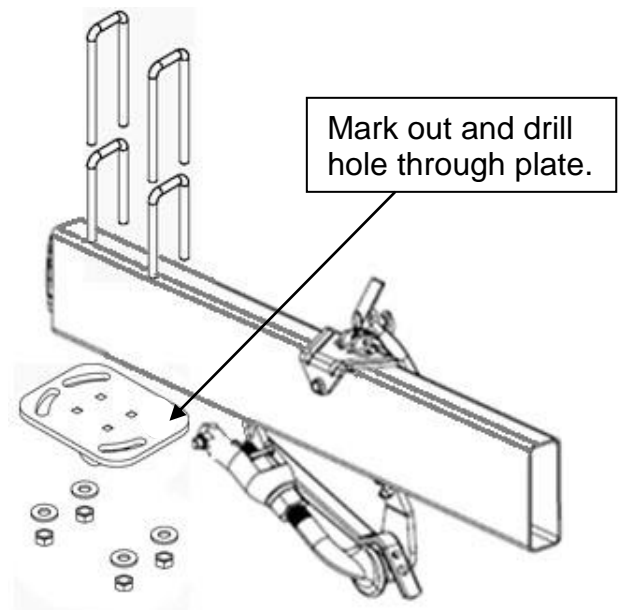

Fig 2
- 4 To prevent bracket slip, a hole for the second U-Bolt must be drilled through the plate (See FIG 2).